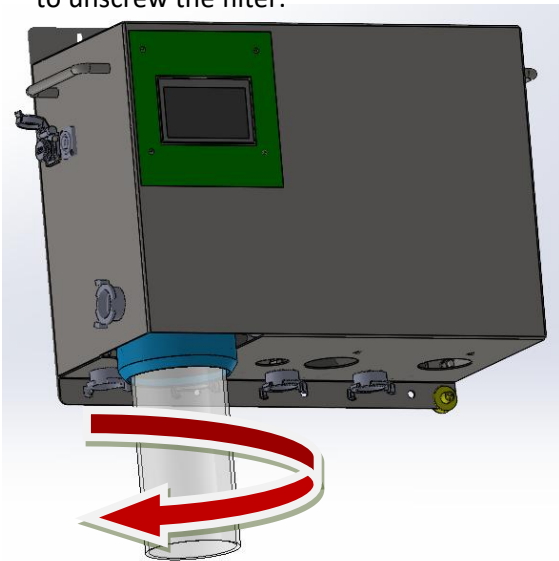

Figure 17
Step 2: Hold a bucket under the filter while you unscrew it. Figure 17 shows an arrow indicating how to unscrew the filter.